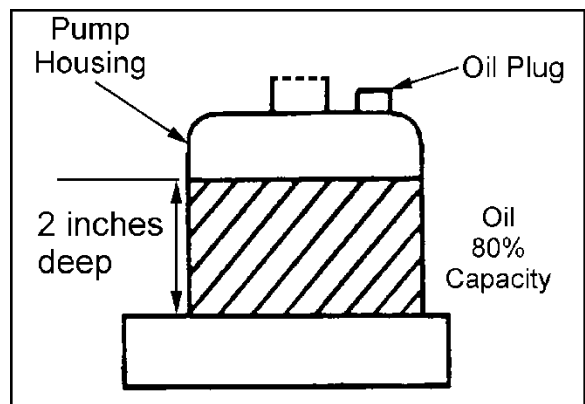

Figure 7
Check oil level annually by removing oil plug found on top of pump housing. When changing or adding oil, fill the tank through the oil plug screw hole to 80% capacity with hydraulic jack oil, about 2" deep in pump housing, see Figure 7. **Do not** use any other type of oil.
7. Reassemble and fill oil tank through the oil plug screw hole to 80% capacity with new hydraulic jack oil, about 2" deep in pump housing, see Figure 7.